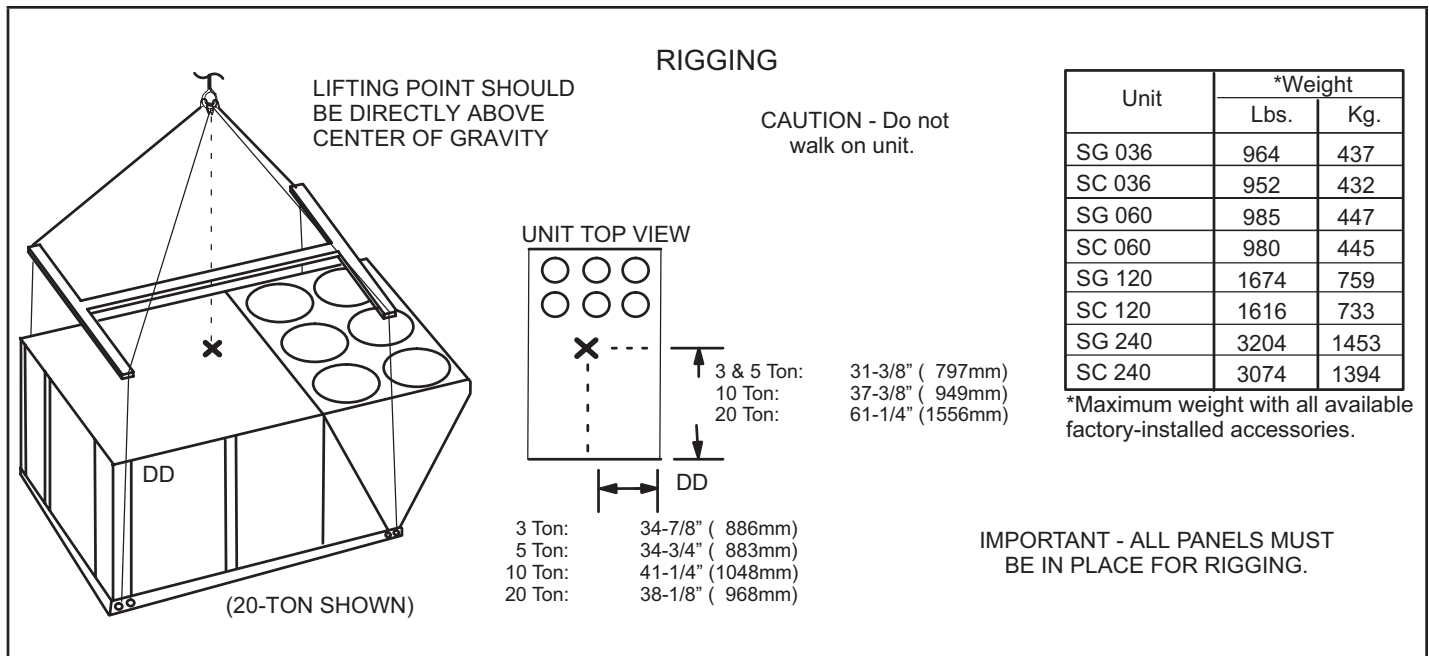

FIGURE 4
Rig unit for lifting by attaching four cables to rig holes in unit base rail. See FIGURE 4.
- 5 - Lifting point should be directly above center of gravity. See FIGURE 4 for center of gravity dimensions. Corner "DD" is on the left corner when facing compressors and heat section.